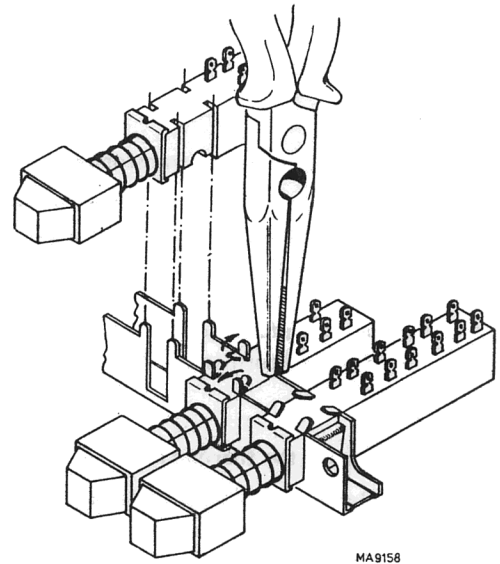

Fig. 3.29. Replacing a pushbutton switch
- Straighten the 4 retaining lugs of the relevant switch as shown in Fig. 3.29.